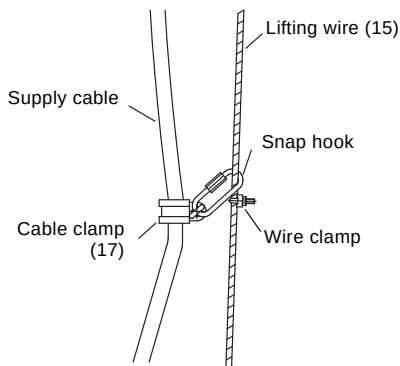

Fig. 11 Attaching the supply cable to the lifting wire
17. Fix the power supply cable to the lifting wire by means of a cable clamp approx. 0.8 m above the mixer. This will prevent the cable from falling down and becoming entangled in the propeller during operation. Connect the cable clamp to the lifting wire above the wire clamp by means of a snap hook. See fig. 11. Attach the supply cable to the lifting wire by means of cable clamps placed at 1 m intervals.